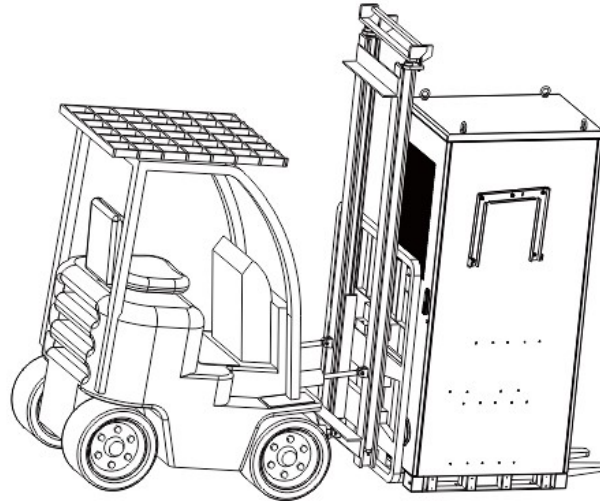

Fig. 3-3 Fork Diagram
4. For safety considerations during forklift loading, it is recommended that a safety belt be tied around the energy storage cabinet and attached to the forklift crossbar. For specific forklift operations, refer to Fig.3-3 below.